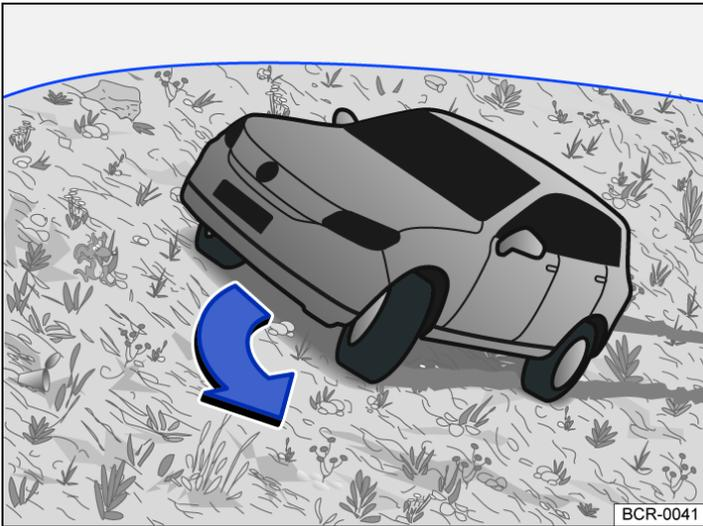

Fig. 1 Illustration: steering into the fall line.
- If the vehicle threatens to tip over, steer immediately into the fall line and depress the accelerator slightly → Fig. 1. If it is not possible to steer into the fall line, then steer uphill and depress the accelerator slightly.
- Make sure that you can steer into the fall line before driving across a slope. Choose another route if this is not guaranteed. If the vehicle threatens to tip over, steer immediately into the fall line and depress the accelerator slightly → *Fig. 1*.